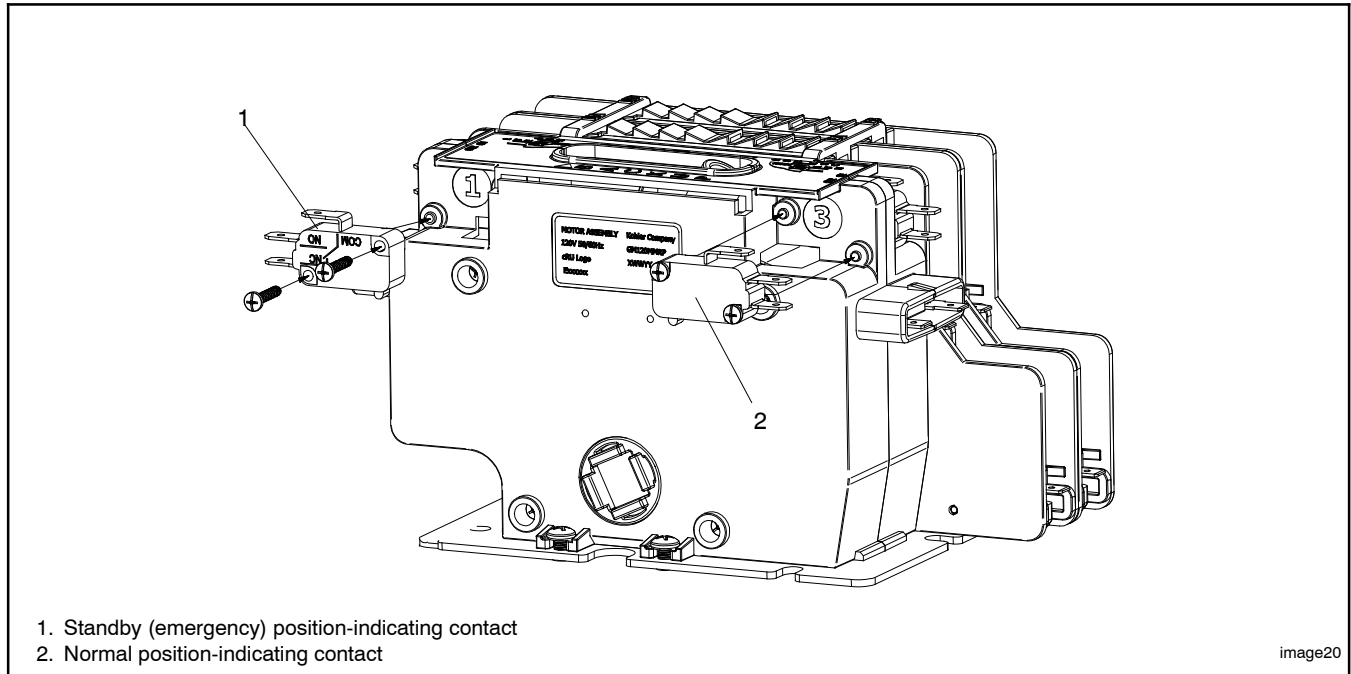

Figure 7-33 Optional Limit Switches (auxiliary contacts)
1. Slide the limit switches into position as shown in Figure 7-33.